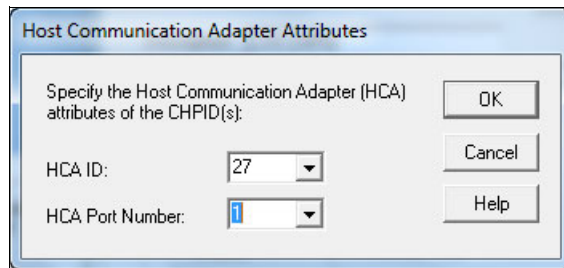

Figure 6-26 HCM - Specify HCA Attributes: defining CS5 HCA attributes
6. Enter the following values in the Host Communication Adapter Attributes window, and then Click **OK** (Figure 6-26):